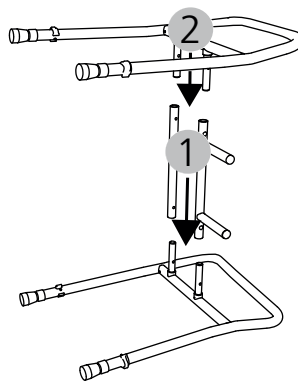

Abb. 6
1. Place a side element on a clean, flat and sturdy surface (floor or table). The connecting pieces are plugged onto the attachments of the side element (Fig. 6, 1).
2. Now push the other side element onto the connecting pieces (Fig. 6, 2). Bring the connecting pieces and the side elements to cover the holes and screw them tightly together.